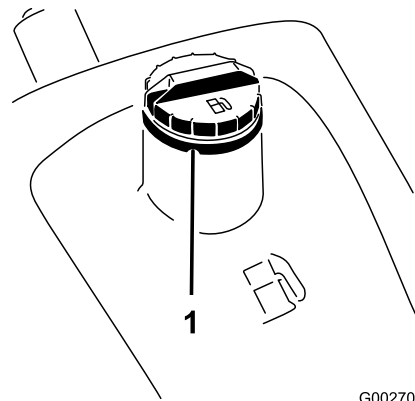

Figure 14
1. Clean the area around the fuel tank cap (Figure 14).